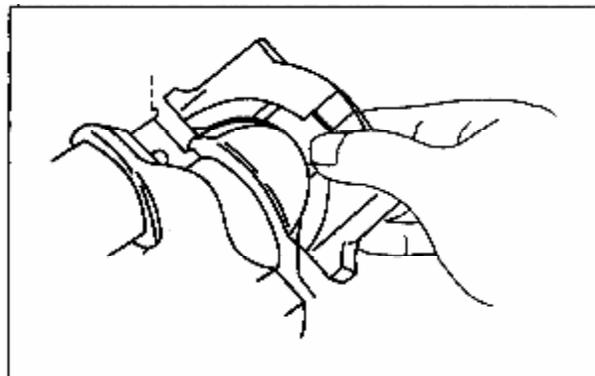
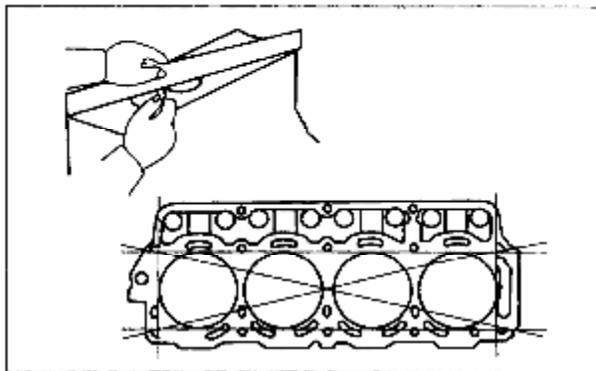

Figure 3-23 Assemble a Thrust Plate
Figure 3-24 Check Warpage on Top deck of Cylinder Block
(1) When to install a thrust plate, its side with oil groove should be outward. Never install it in adverse direction (see Figure 3-23).
(2) There are oil grooves and oil holes on the main bearing cover that is installed on cylinder block. The upper and lower covers can not be installed adversely.
**3.2.5** Check cylinder block for crack and damage, and follow Figure 3-24 to check warpage on top deck of cylinder block with a fine ruler and a feeler (the value should be less than 0.05mm). If the warpage exceeds the specified limit, use surface grinder to grind the top deck of the cylinder block. Or replace the unserviceable cylinder block.